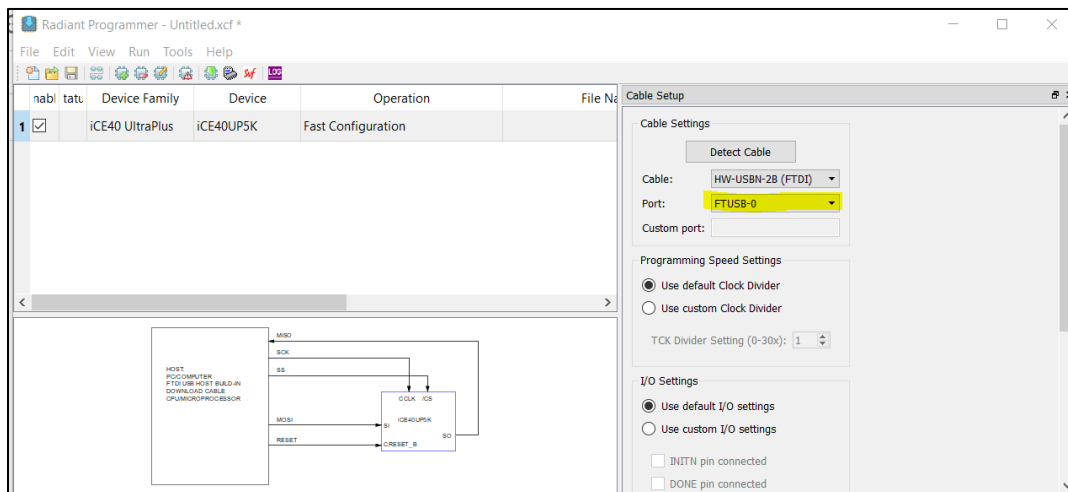

Figure 8.2. Port Setting at Lattice Radiant Programmer Software
- In Lattice Radiant Programmer under Cable Setting as shown in Figure 8.2. Choose the correct Port accordingly.